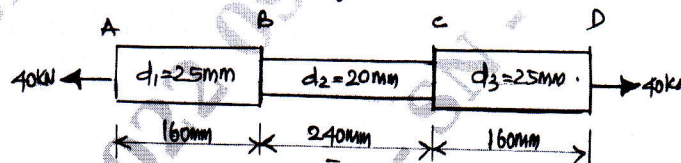

Fig Q8(b) (10 Marks)
b. A bar shown in Fig Q8(b) is subjected to axial load of 50kN, the total extension of the bar is 0.285mm. Determine the modulus of elasticity of material.